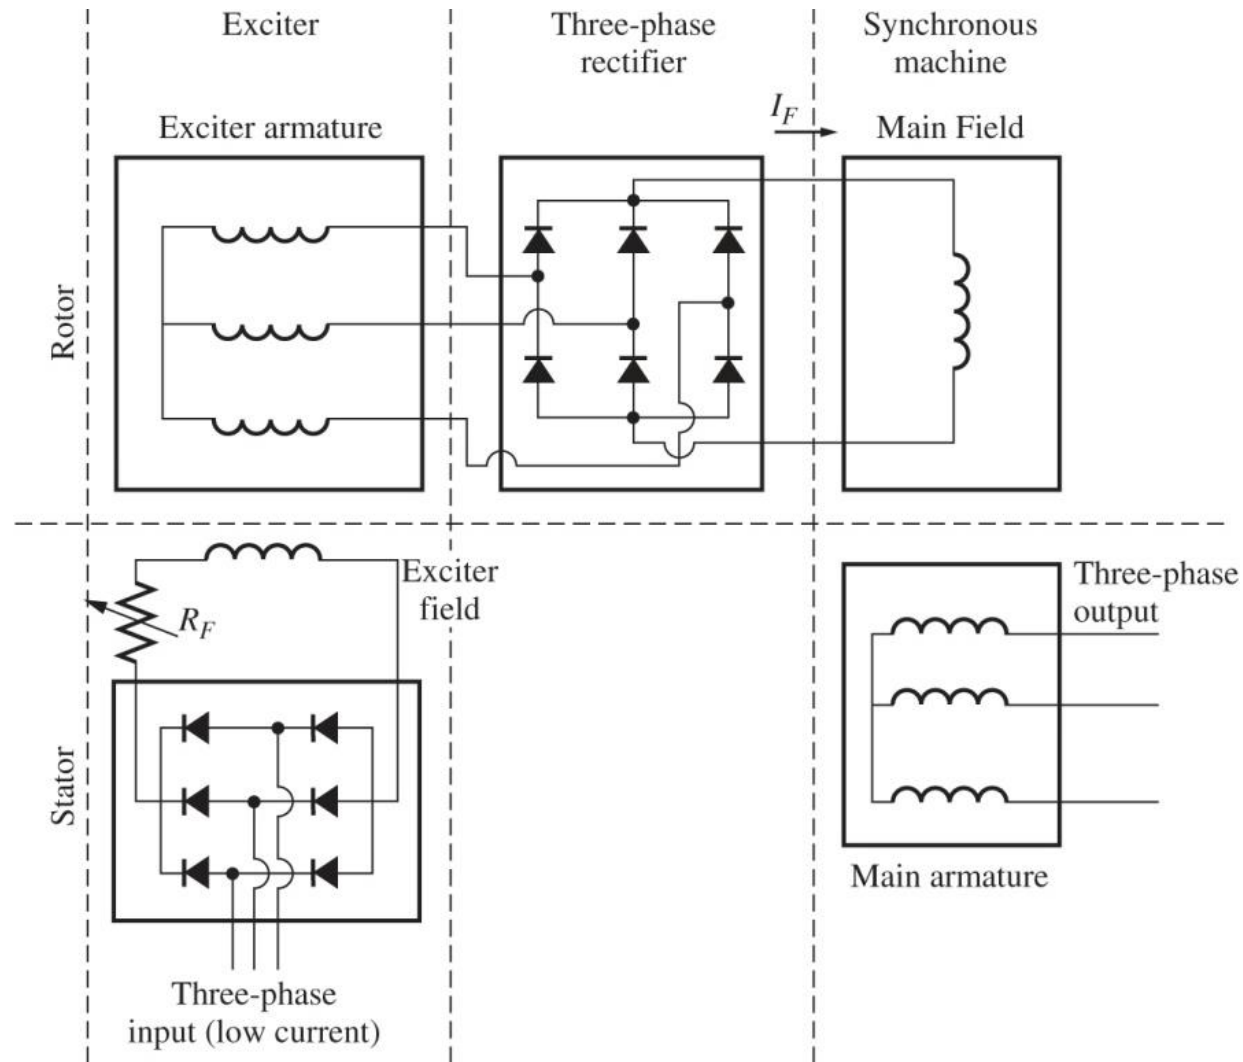

Figure 1: Brushless exciter circuit.
- On larger generators and motors, *brushless exciters* are used to supply the dc field current to the machine. A brushless exciter is a small ac generator with its field circuit mounted on the stator and its armature circuit mounted on the rotor shaft. The three-phase output of the exciter generator is rectified to direct current by a three-phase rectifier circuit also mounted on the shaft of the generator, and is then fed into the main dc field circuit. By controlling the small dc field current of the exciter generator (located on the stator), it is possible to adjust the field current on the main machine without slip rings and brushes. This arrangement is shown schematically in Fig.1. Since no mechanical contacts ever occur between the rotor and the stator, a brushless exciter requires much less maintenance than slip rings and brushes.